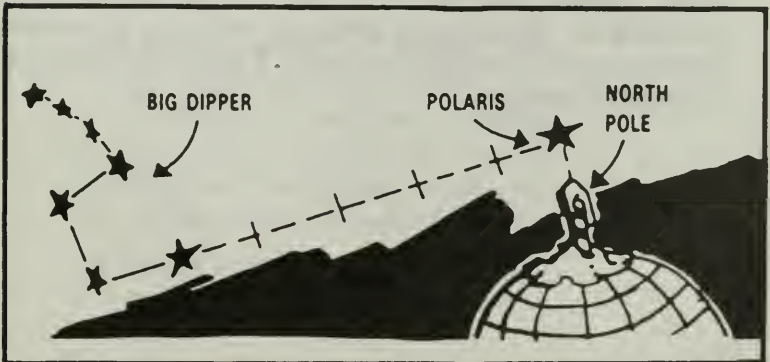

Figure 44. North Star method.
3. Use the North Star method to determine direction at night. At night, you can locate north by finding the North Star (Polaris). First, find the Big Dipper. The last two stars in the cup point directly at Polaris, which is about five times as far out as the distance between those two stars in the cup. Facing Polaris, you are looking north, with east on your right and west on your left (Figure 44).